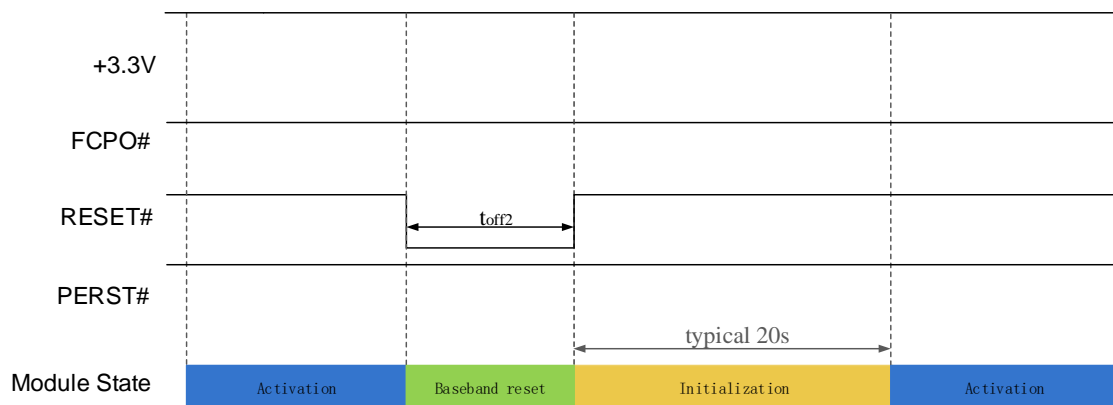

Figure 3-8 Reset control timing1st
- Reset timing 1st in Figure 3-8, PMU of module internal always on in reset sequence, recommend using in FW upgrade and module recovery;